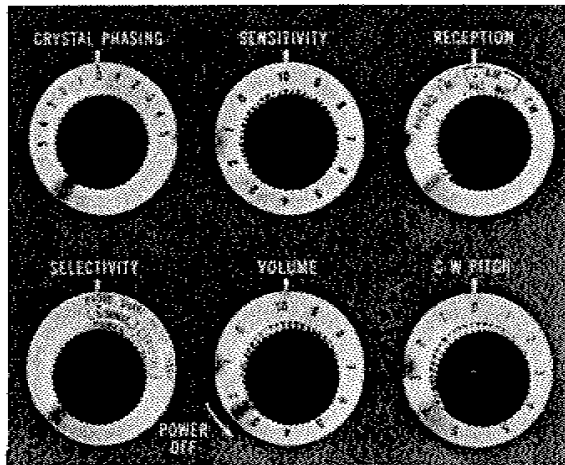

Figure 5. View showing six right hand controls
4. Set four of the six right-hand control knobs to the following positions: "SENSITIVITY" to red dot, "RECEPTION" to red dot, "SENSITIVITY" to 10, and "VOLUME" to 4 or the desired amount of volume. (See Fig. 5)